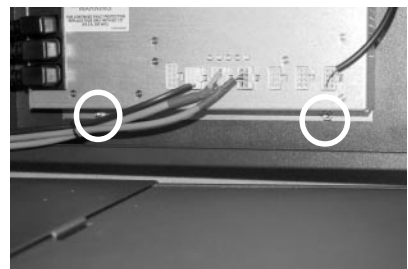

Figure 3-8. Location of the 11/32 inch nuts that are removed to take the power supply out of the upper enclosure.
2. Unlock and open the cabinet sleeve door to the top enclosure. Turn off the AC input power by pushing the AC ON/OFF switch to the OFF(0) position
8. Refer to Figure 3-8. Remove the two 11/32 inch nuts that secure the front of the power supply chassis to power supply mounting bracket.